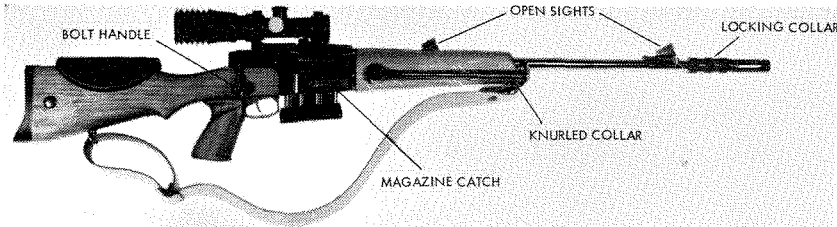
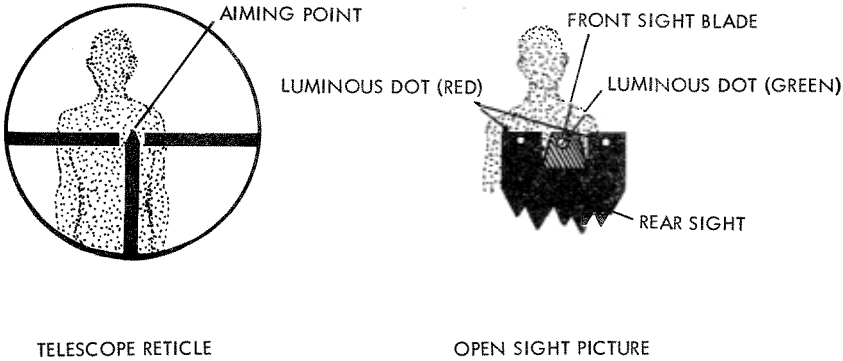

Figure 133. French FR-F1 sniper's rifle.
Figure 136. Sight picture.
a. The FR-F1 sniper's rifle (fig 133 and 134) is one of the newest weapons of the French Army. This extremely accurate weapon has been designed especially for use by snipers. The primary sighting equipment is a 3.8-power telescopic sight, and nonadjustable 100-meter open sights, with a self-contained
b. Remove the magazine by pressing the magazine catch (fig 133) and catching the magazine as it ejects. Place a cartridge on the magazine platform and press the cartridge into the magazine until it rolls sideward under the magazine lip. Repeat until the magazine is full. (The rubber cap can be removed from the bottom of the magazine and used as a dust cap over the top of the loaded magazines. The cap must be removed and replaced on the magazine's bottom before loading the magazine into the rifle.) Insert the loaded magazine into the opening in the receiver until
d. To prepare the rifle for firing, lift up the bolt handle (fig 133), pull it fully rearward, then thrust it forward and turn it down. CAUTION: The rifle is now ready to fire. To render the rifle safe, swing the safety down behind the trigger (fig 134). To fire: (1) swing the safety to the left, (2) aim (fig 136), and (3) press the trigger. To reload: (1) lift up the bolt handle, (2) pull it vigorously rearward, and (3) thrust forward and turn it down. The rifle is now ready to fire another shot. When the last cartridge in a magazine is fired, the bolt is blocked after it is drawn rearward and cannot be thrust forward until the magazine is removed or refilled.
e. Under adverse light, it may be necessary to use the open sights. Remove the telescope by rotating the lock lever rearward, and then pulling the telescope rearward until it disengages from the receiver. Replace the telescope in its carrying case. Flip up the open front and rear sights (fig 133). The sight picture to be used during the daytime is the same as that for the US M1911A1 pistol. At night, a green luminous dot on the front sight and two horizontally aligned red dots on the rear sight will glow; align and
evenly space all three dots, green in the center, and superimpose them on the target (fig 136).
h. The adjustment of the flash suppressor is extremely critical in obtaining maximum accuracy; avoid altering the factory setting by turning the flash suppressor or its locking collar. If the flash suppressor has been removed or replaced, the barrel assembly must be returned. Loosen the locking collar (fig 133) as far as possible and, using a broad wooden bar inserted through the slots in the flash suppressor, screw the suppressor fully onto the barrel. Hand-tighten the collar and fire a five-shot group. Loosen the collar and unscrew the suppressor two turns, retighten the collar, then fire another five-shot group. Repeat until the smallest radius shot pattern is achieved, then use one-half-turn increments and repeat the firing. When the smallest group is achieved, use a strap wrench to tighten the collar.